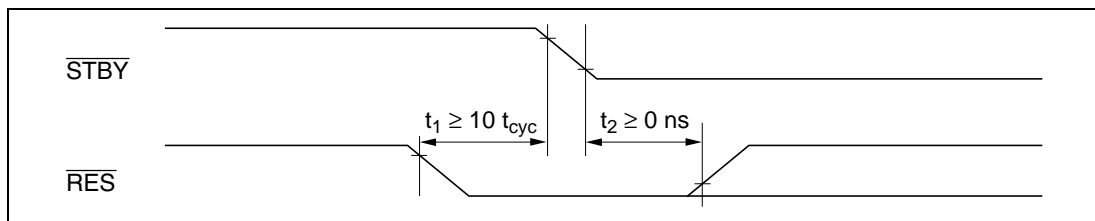

Figure F.1 Timing of Transition to Hardware Standby Mode
- (1) To retain RAM contents with the RAME bit set to 1 in SYSCR, drive the $\overline{\text{RES}}$ signal low at least 10 states before the $\overline{\text{STBY}}$ signal goes low, as shown figure F.1. $\overline{\text{RES}}$ must remain low until $\overline{\text{STBY}}$ goes low (delay from $\overline{\text{STBY}}$ fall to $\overline{\text{RES}}$ rise: minimum 0 ns).